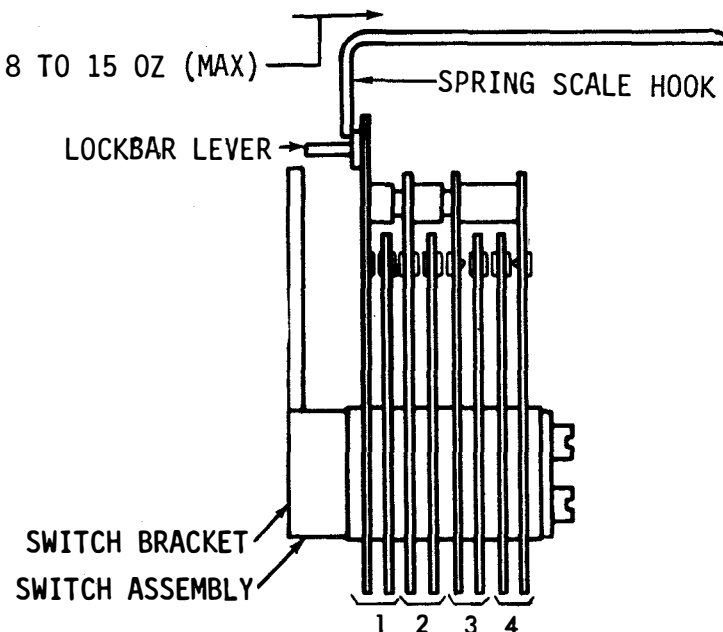

Figure 6-428. Keyboard Lockbar Switch and Lockbar Switch Spring
(1) Keyboard Lockbar Switch. Adjust as follows:
- (a) Refer to Figure 6-428.
(2) Keyboard Lockbar Switch Spring. Adjust as follows: